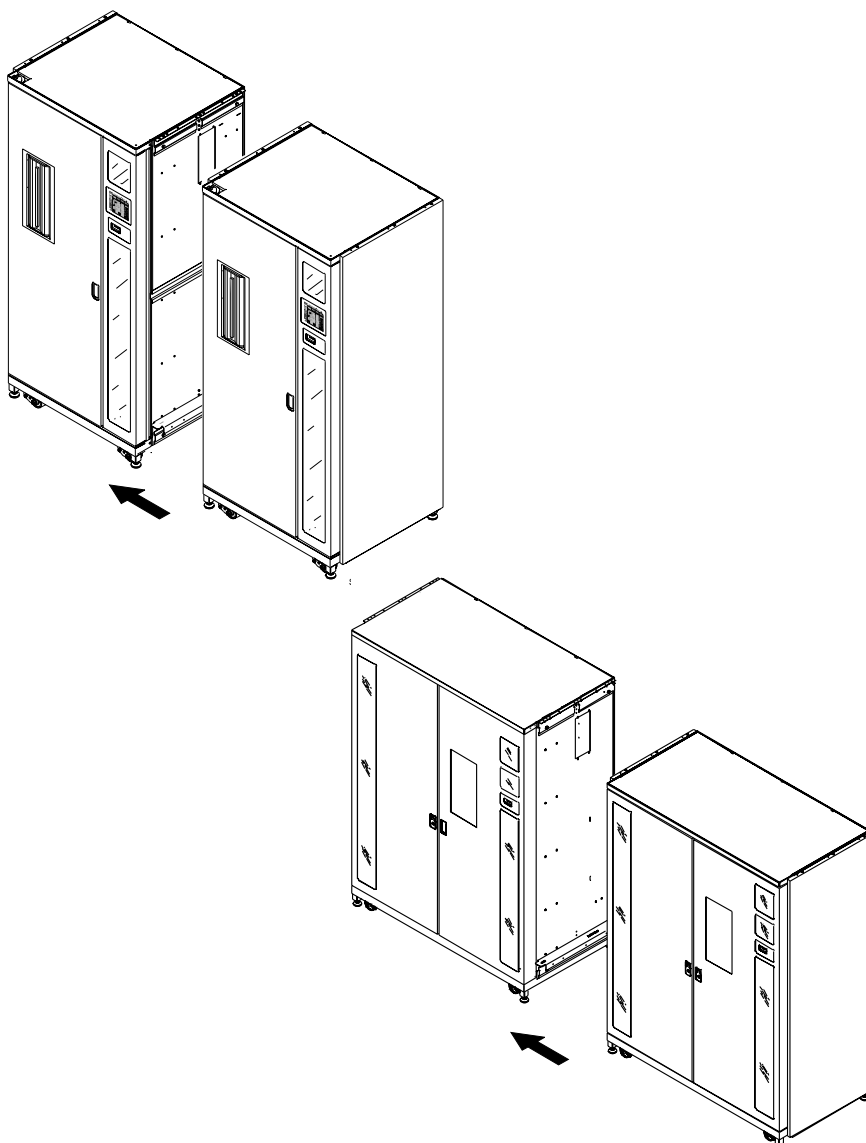

Figure 5: Attaching the library cabinets
7. Slowly move the libraries together until the lower cabinet attachment channel on the left library makes contact with the right library (see Figure 5).